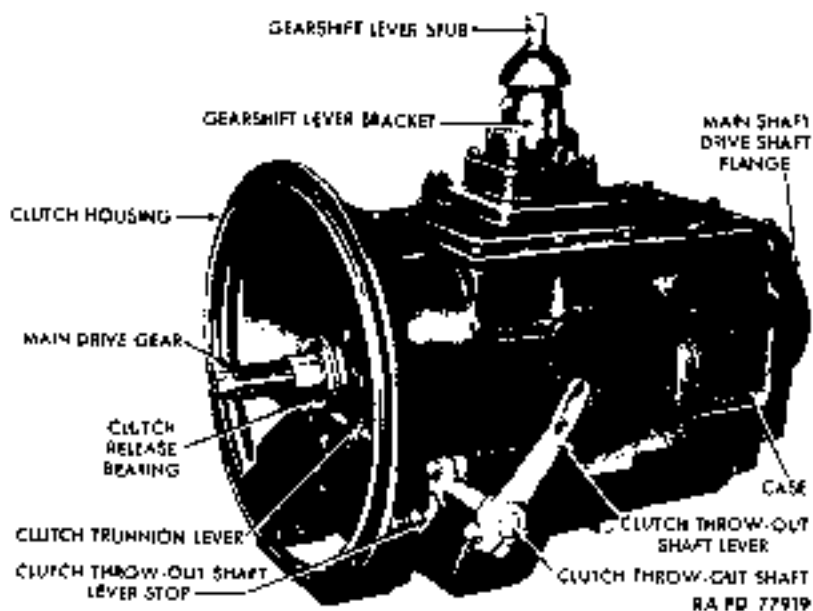

Figure 52 - Transmission
f. **Disconnect Transmission Gearshift Lever (fig. 20).** Loosen the nut and bolt which clamp lever to gearshift lever stub. Pry lever from stub (fig. 52), and remove Woodruff key from stub.
g. **Disconnect Clutch Control Rod From Clutch Throw-out Shaft (fig. 52) (par. 60).**